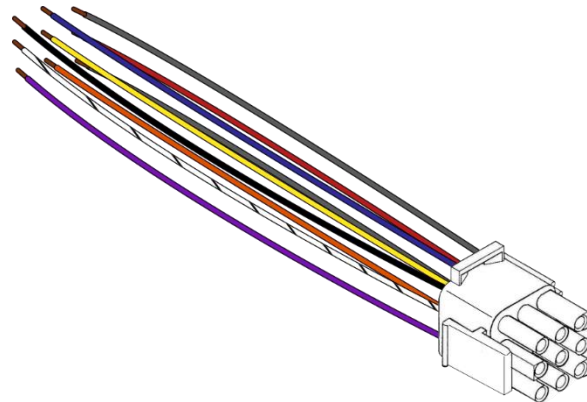

Figure 3 - Provided 9-Pin Wire Harness
- 1x 9-pin wire harness (*Figure 3*)
Original displays may have a plug-in connector (*Figure 3*) connecting the display to the manufacturer wiring harness. Original displays wired with this plug can simply unplug the original and plug in the EasyTouch RV display. Skip to the next section or continue on for direct wired systems.
Others may be built with the display wired directly to the manufacturer's wire harness (that goes to the A/C control box and furnace) with wire nuts or similar. These systems will require the provided harness (*Figure 3*) to be wired up to allow EasyTouch RV to be plugged in. *Table 3* shows how the EasyTouch RV wires will interface with the existing wires. Fill in the manufacturer wire color column of the chart (along with a picture saved elsewhere) to have a recorded reference as to which OEM wire goes where.